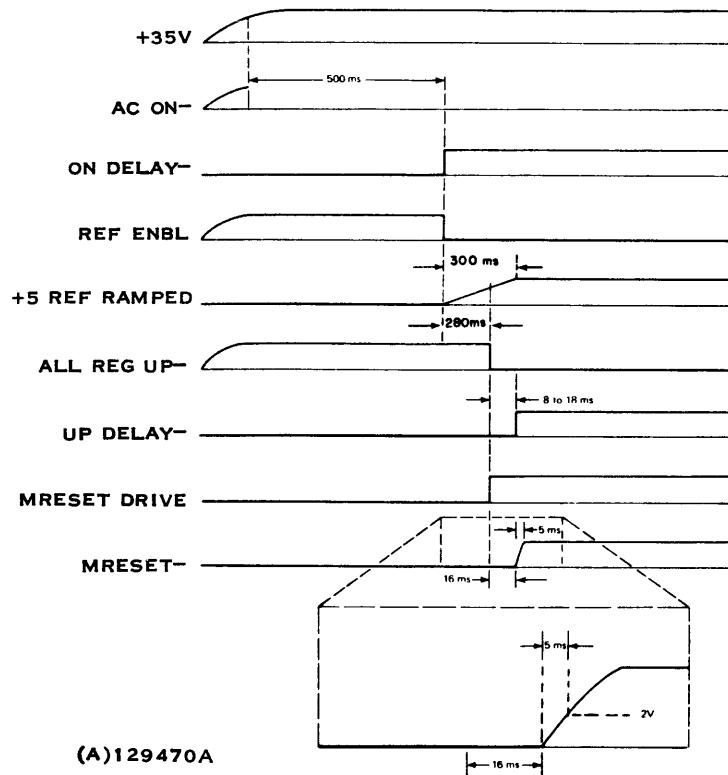

Figure 4-11. Turn-On Sequence Timing
If the AC ON- signal goes high, Q2 is turned on and C2 is discharged through Q2. Transistor Q3 is turned off and Q4 is turned on; therefore, the ON DELAY- goes low. This condition initiates POFF pulse generation. Figures 4-11 and 4-12 illustrate the timing sequence.
During the turn-on sequence U3B pin 4 (ALL REG UP-) is initially high and pin 5 of U3B (UP DELAY-) is low as illustrated in figure 4-11. After the +5V MAIN gets up and all other voltages are up, ALL REG UP- goes low. Eight to eighteen milliseconds after this occurs, the UP DELAY- goes high. After this occurs, when a regulator goes below a predetermined level (see table 4-2), ALL REG UP- goes high and the overload latch is tripped. This shuts down the +5V MAIN by making REF ENBL- go high.
4.2.1.9 TURN-ON SEQUENCE. Turn-on sequence waveforms are shown in figure 4-11. When the ac power comes on, the +35V line and the +33V line increase from zero to their respective values. Also, the auxiliary and reference voltages begin to assume their values. All regulators except +5V MAIN come up unless the power supply is operating in the battery mode. If this is the case, other regulated voltages may already be up depending on the charge left in the battery.